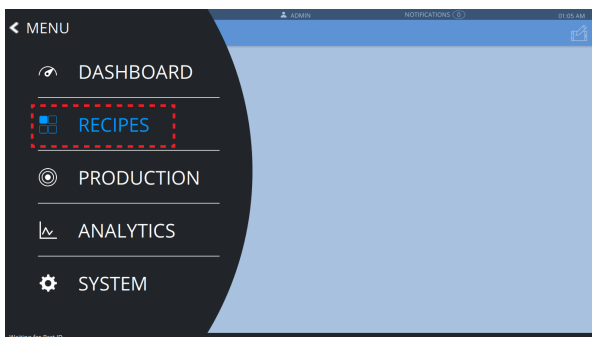

Figure 4: Menu Icon > Recipe
1. Hit the menu icon at top left, then select RECIPES (see Figure 4)